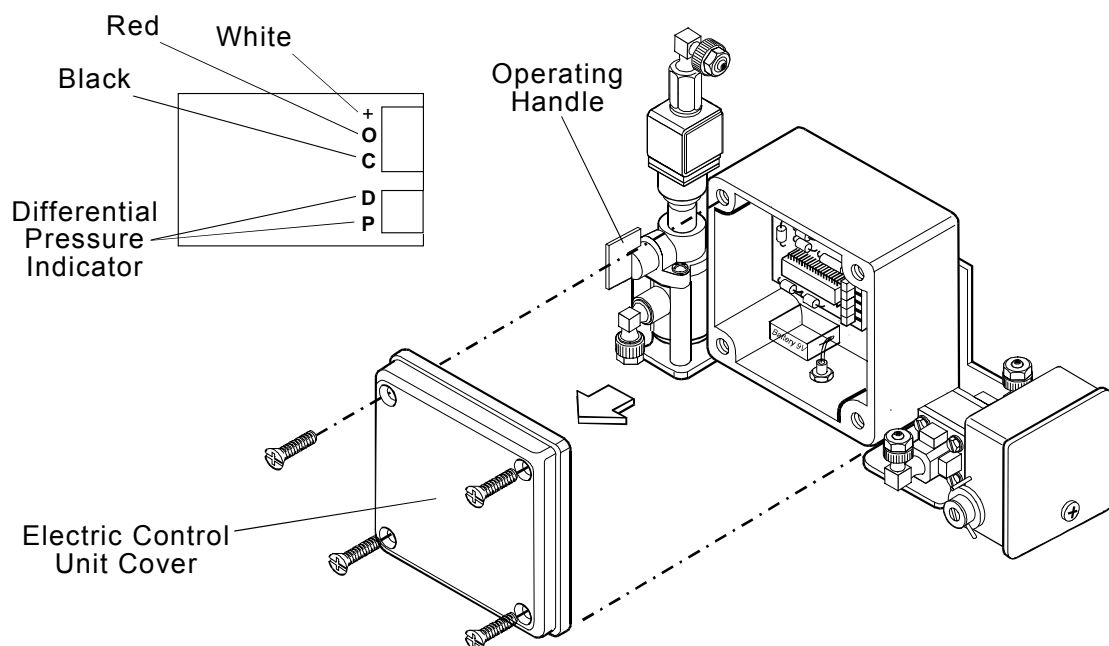

Figure 4: Control Card Removal & Installation
Control Card Removal & Installation (Figure 4)
12. Perform an additional flushing cycle manually, by operating the handle (turn clockwise 90°) located on the solenoid (See Figure 4).